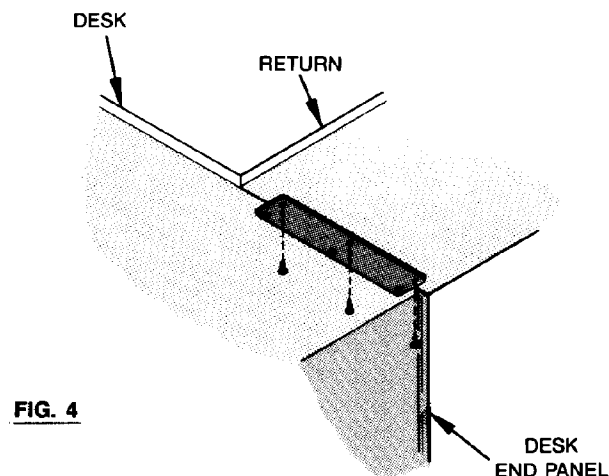

FIG. 4
4. Fasten the return to the support bracket using the remaining three (3) #12-11 X 1" truss head screws provided (Figs. 4, 4A, 4B).